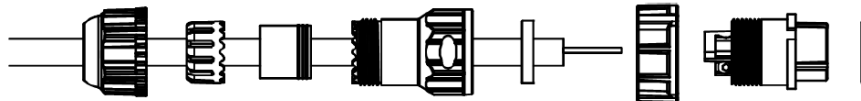

Figure 55: Core wire fixed into the screw fixing point
2. Use a 1.5 mm screwdriver, preferably an allen wrench, to fix the core wire(s) into the screw fixing point (Figure 55).